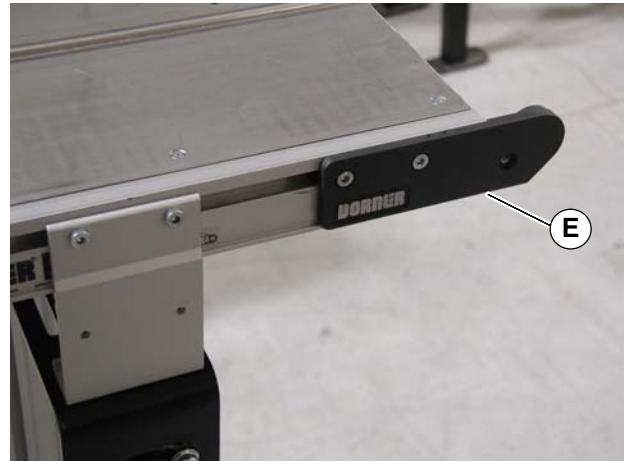

Figure 4
5. Install the new head plate (E of Figure 4) on the non-drive shaft side of the conveyor.